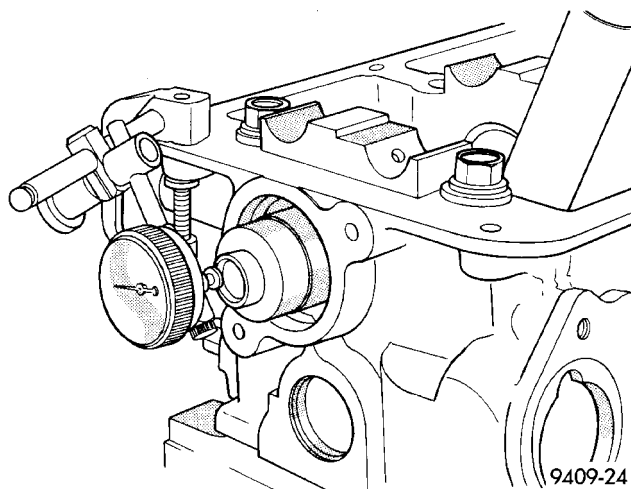

Fig. 29 Camshaft End Play
(1) Measure camshaft end play using the following procedure:
- Mount dial indicator C-3339 or equivalent, to a stationary point on cylinder head (Fig. 29).